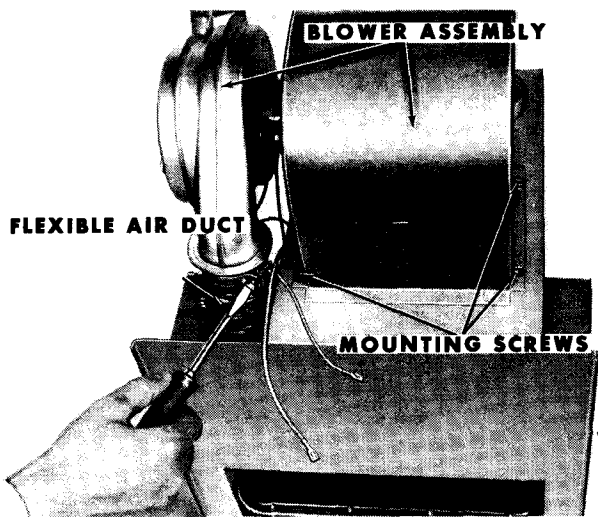

Figure 23—Disconnecting Flexible Duct From Blower
2. Disconnect flexible air duct from blower assembly (figure 23). Disconnect blower motor electrical leads.
7. Install blower assembly to furnace with three mounting screws (figure 23). Connect blower electrical leads and flexible air duct.